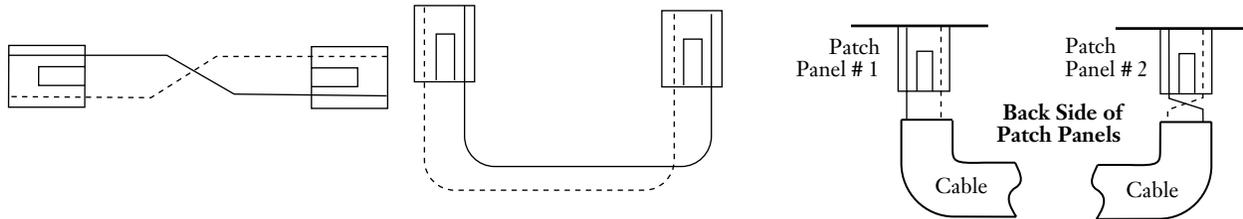

Figure 9
**3.2** Using the CFP technique, the connectors that are installed in the backside of the patch panel have the fibers oriented on the same side of the ferrule relative to the key. Figure 9 illustrates the CFP wiring method.